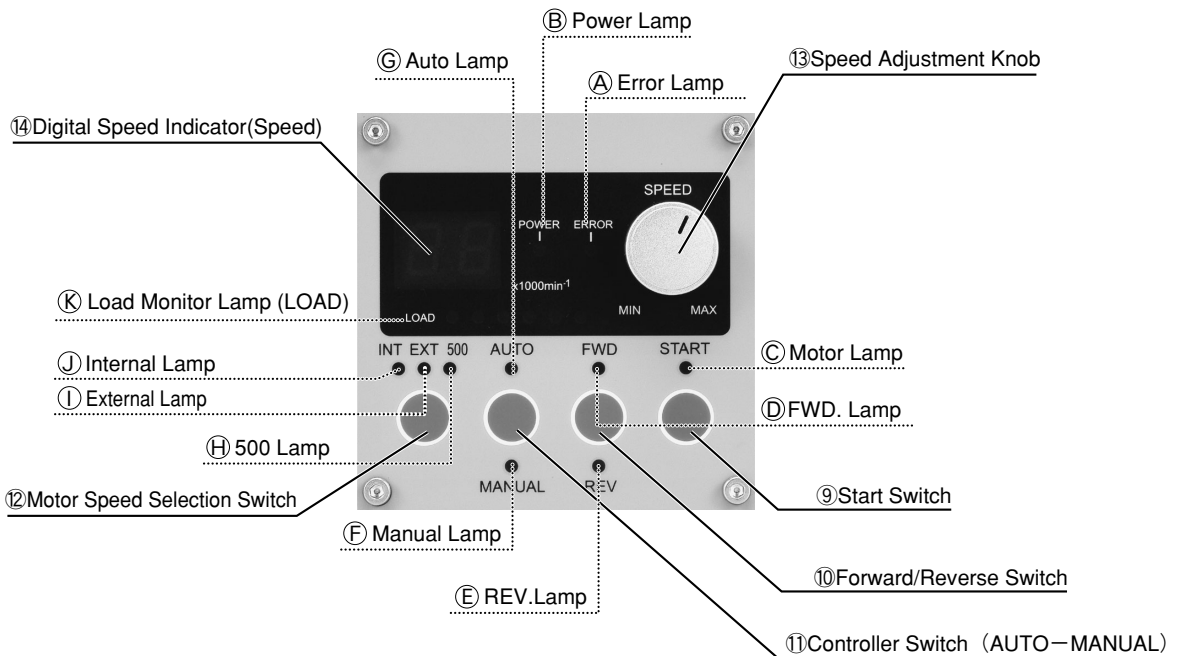

Fig.2
⑧ Power switch
(2) Control Panel (Fig.2)